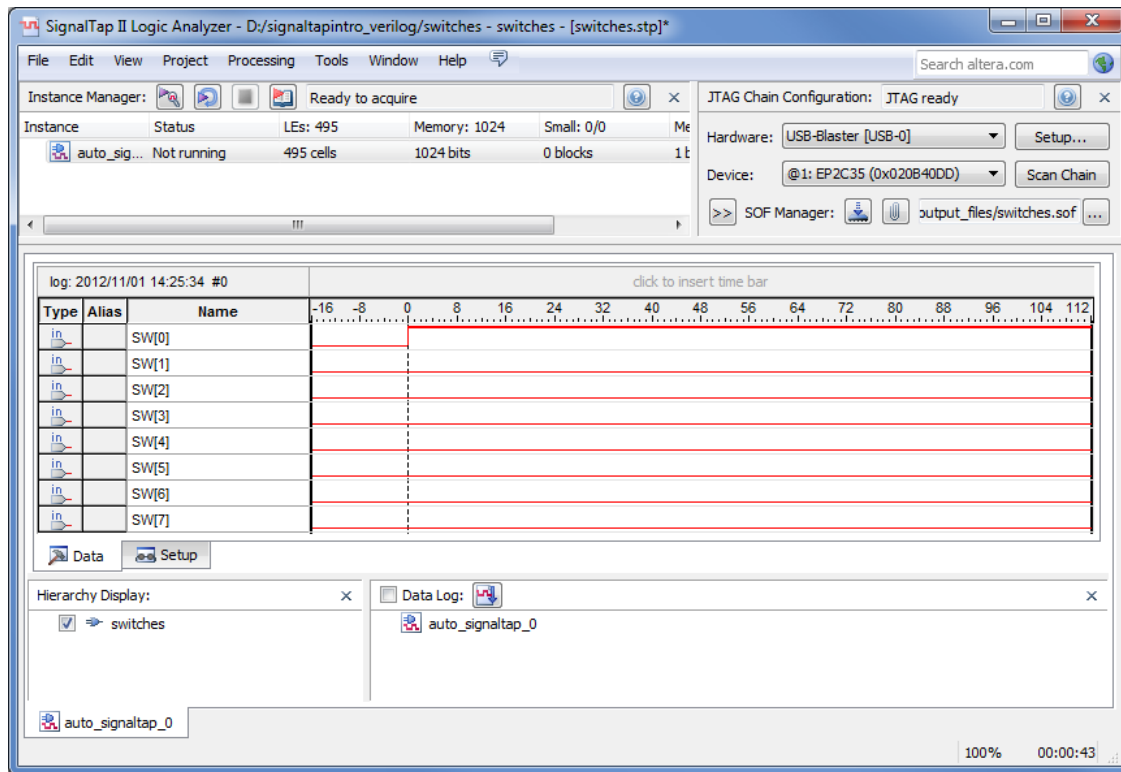

Figure 13. Graphical display of values after trigger condition is met.
3. Now, to observe the trigger feature of the Logic Analyzer, set Switch 0 on the DE-series board to high. The data window of the SignalTap II window should display the image in Figure 13. Note that this window shows the data levels of the 8 nodes being tapped before the trigger condition was met and also after. To see this, flip